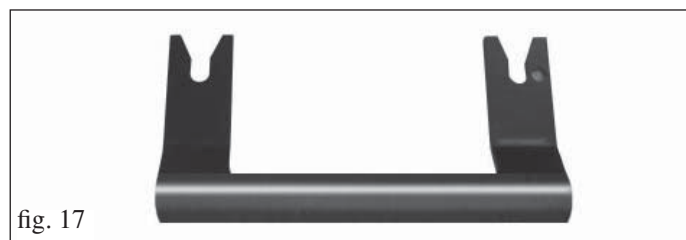

fig. 17
- Use the provided removable handle to open the door (fig. 17).